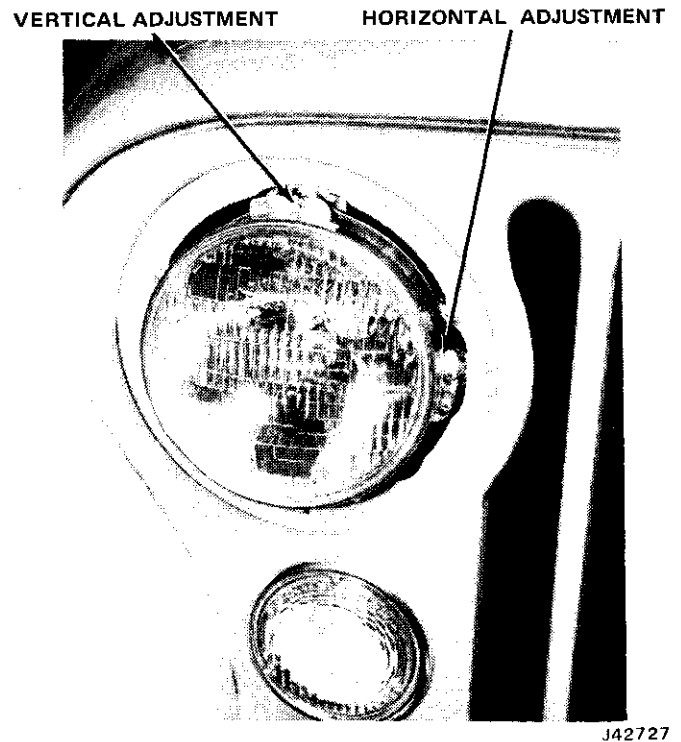

Fig. 3R-2 Headlamp Adjustment, Typical
(5) Equalize all tire pressures.
(6) Rock vehicle from side to side to equalize springs and shock absorbers.
(7) Measure distance between vehicle headlamp centers.
(8) Position marker tapes vertically on screen to right and left of middle tape at half this distance.
(9) Measure distance from center of each lamp to surface on which vehicle rests.
(10) Position marker tape horizontally on screen to cross vertical tapes at measured height of each lamp center respectively.
(11) Remove headlamp doors, if equipped.
(12) Clean headlamps.
(13) Turn headlamps on LOW beam.
(14) Turn vertical aiming screw counterclockwise until lamp beam is considerably lower than horizontal reference line on screen (fig. 3R-2).
(15) Turn screw clockwise until top edge of high intensity area is even with horizontal line.
(16) Turn horizontal aiming screw counterclockwise until beam is off centering tape.
(17) Turn same screw clockwise until left edge of high intensity area is 2 inches to right of lamp centerline (fig. 3R-1).
(18) Cover lamp that has been aimed and aim other lamp using same procedure.